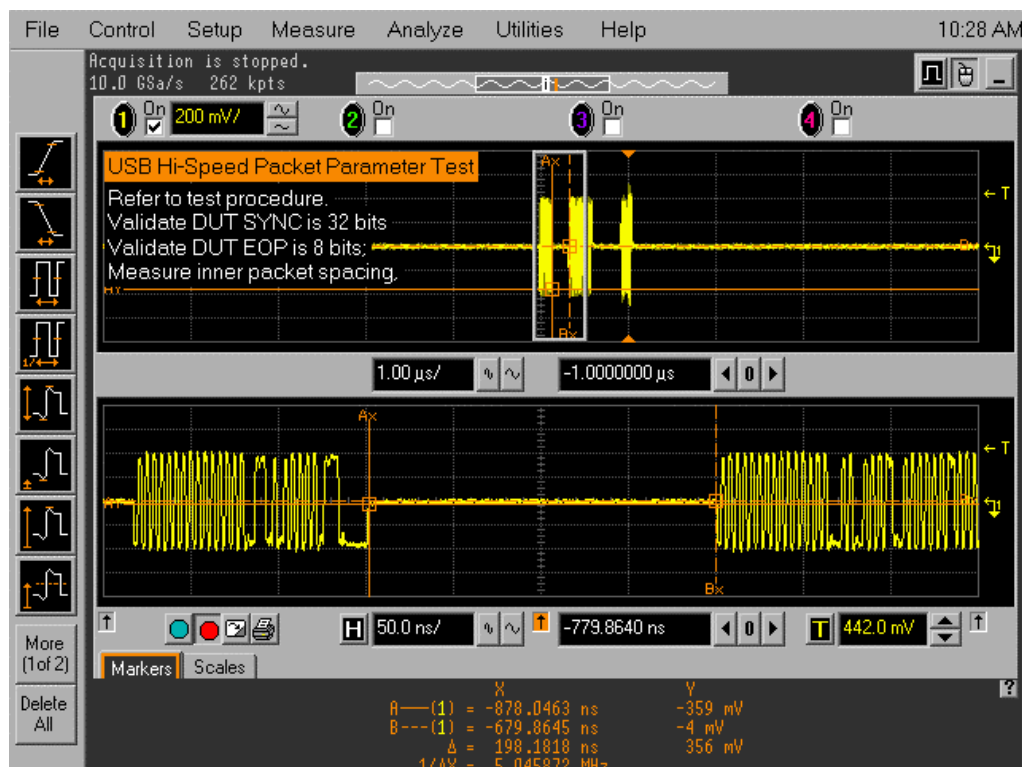

Figure 15. Inter-packet Gap – Between Packets from Host
11. Measure the inter-packet gap between the first two packets shown on the oscilloscope by using the marker function of the oscilloscope, as shown in Figure 15.